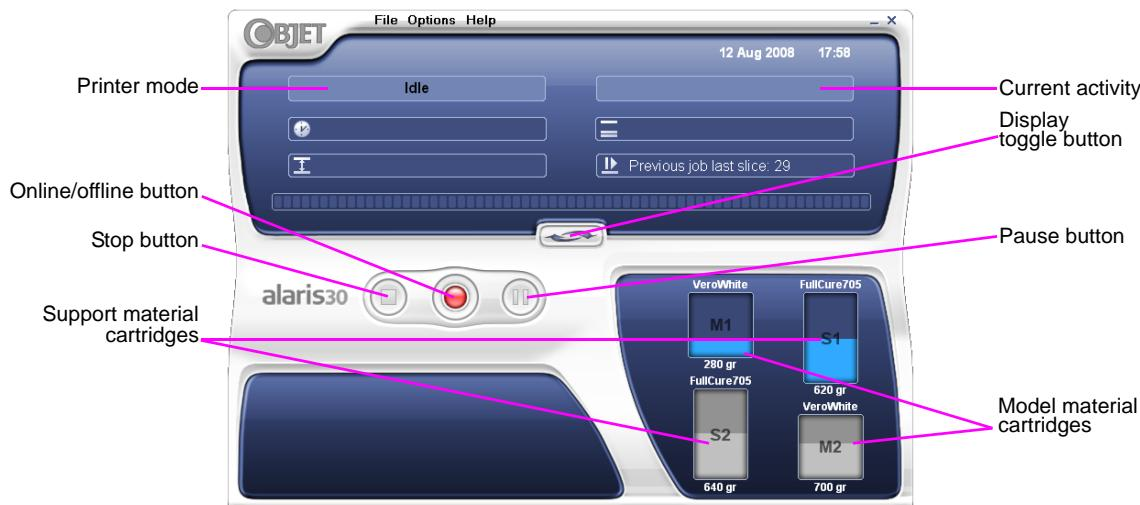
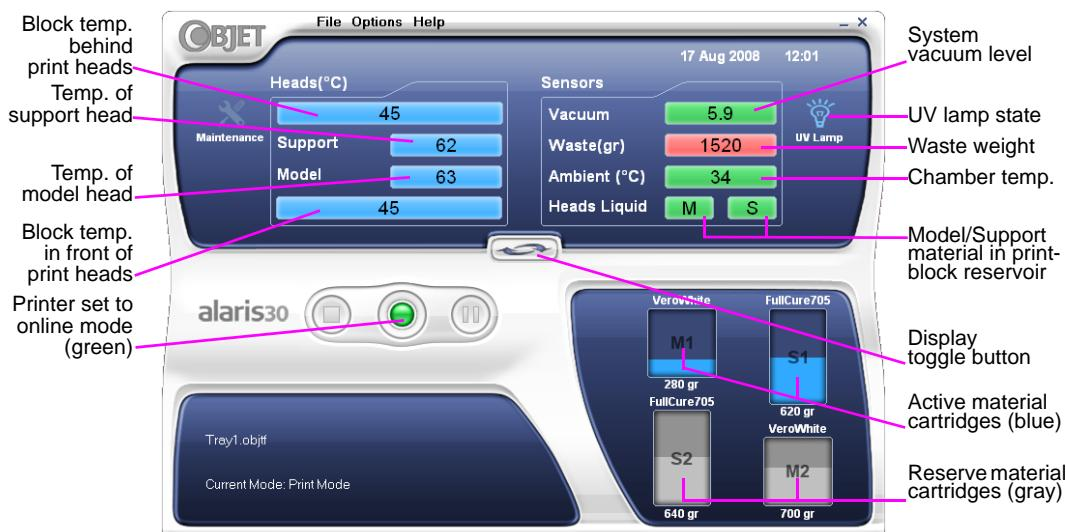

Figure 7-3: Alaris30 interface
Figure 7-7: Alaris printer indicators
The Alaris printer interface screen opens (see figure 7-3). All monitoring and controlling of the Alaris printer is done from this interface.
Alaris printers use two cartridges of model material and two cartridges of support material, each weighing one kilogram when full. A graphical representation of the cartridges and their current weight appears in the printer interface (see figure 7-3).
4. Check the Alaris printer interface to make sure that the new cartridge is detected and that its weight is displayed (see figure 7-3).
2. Make sure that there is sufficient model and support material loaded in the printer, as indicated in the Alaris printer interface (see figure 7-3). You may want to replace the cartridges of model and support material currently loaded in the printer to avoid the need for replacing them during printing.
The color of the button changes from red to green (see figure 7-7). If there is a job in the Job Manager queue, it is sent to the printer.
For example, in figure 7-7:
1. Switch the printer to online mode by clicking the red button at the bottom of the Alaris printer interface (see figure 7-3 on page 7-3). The button changes from red to green (see figure 7-7 on page 7-7).